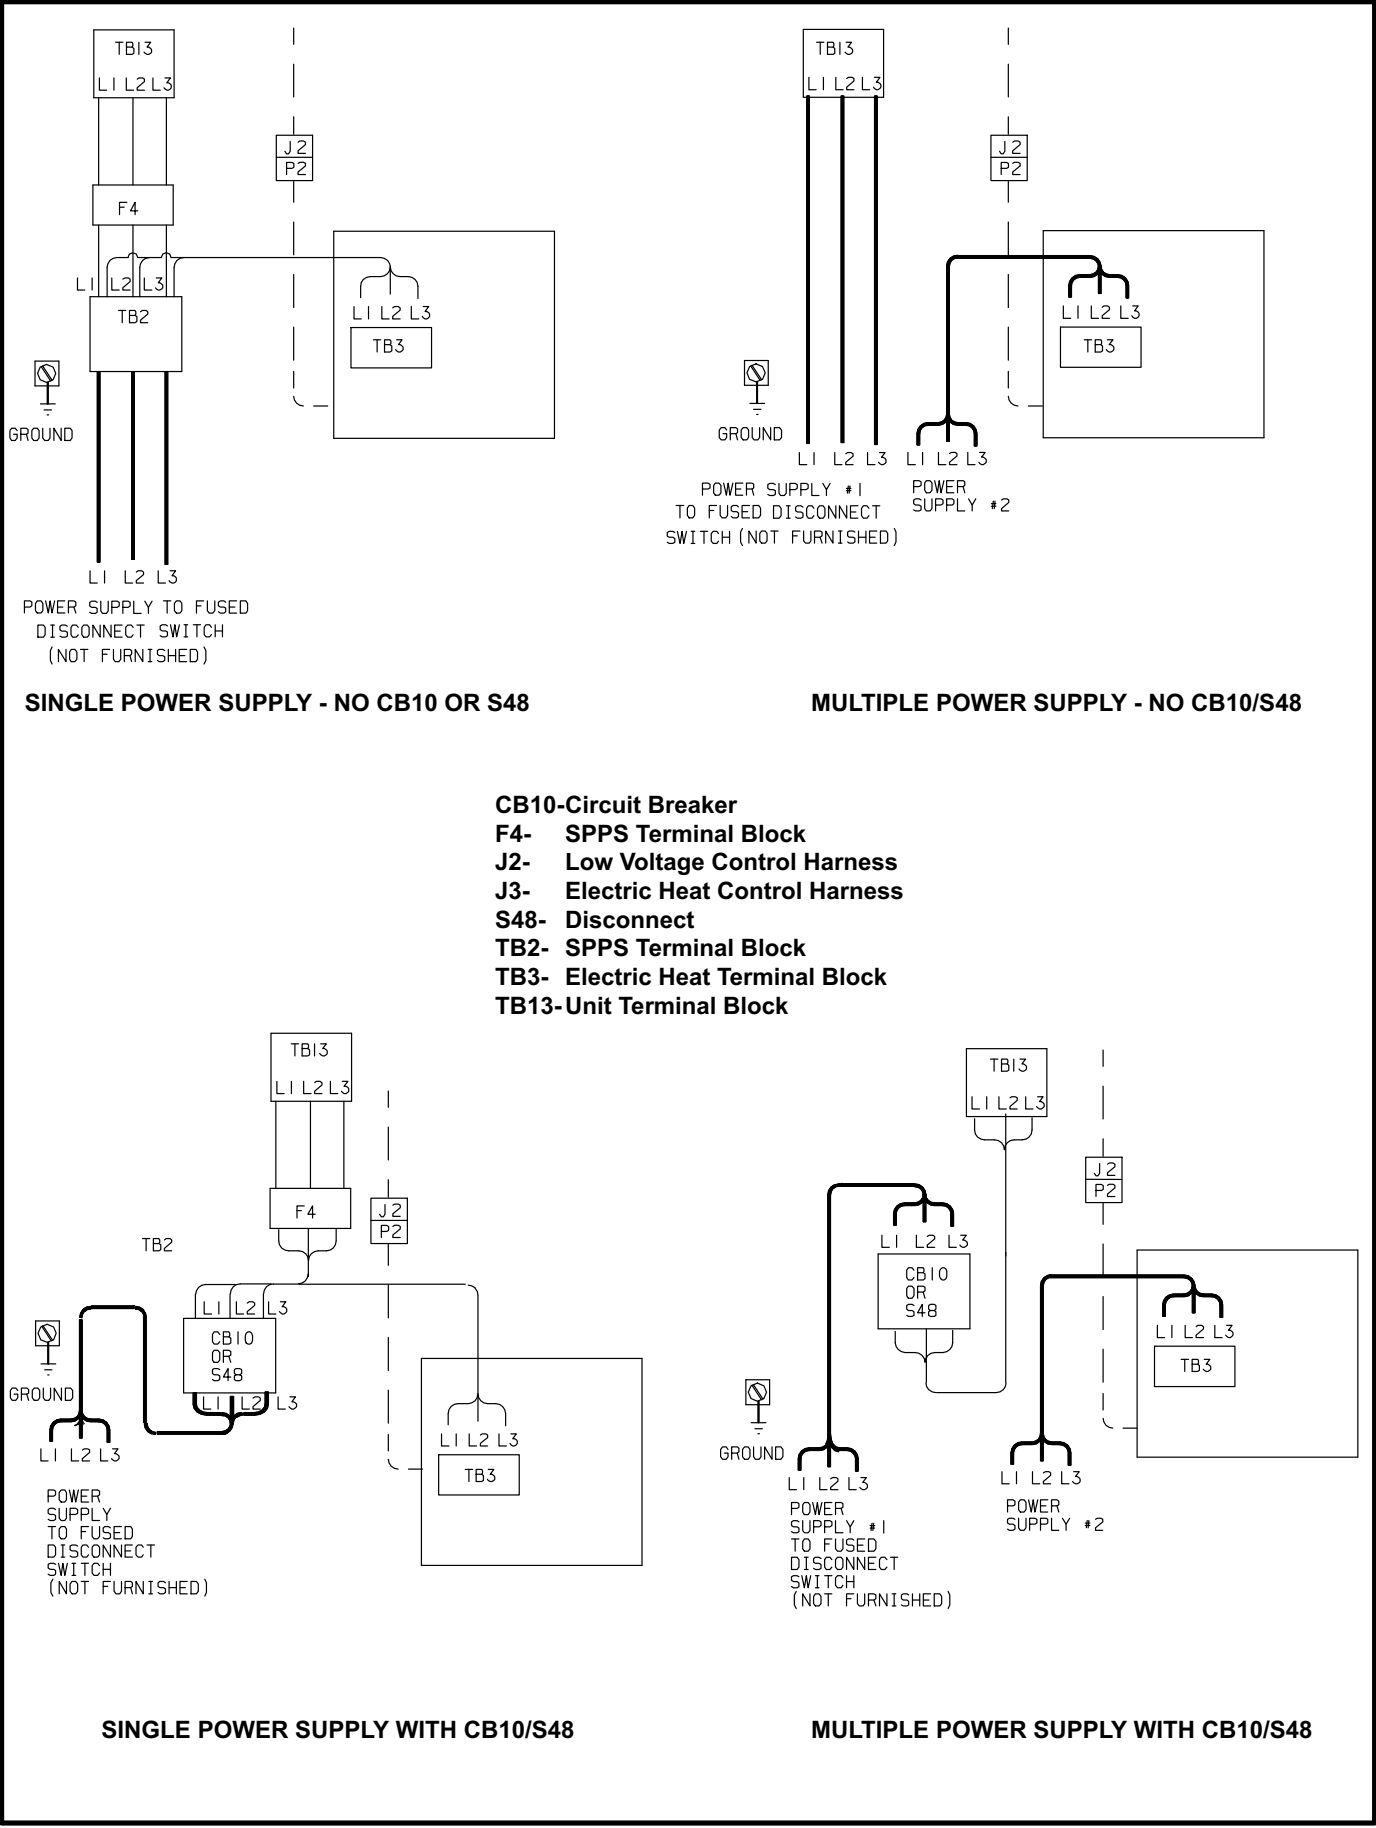

FIGURE 7
- 1- Review heater installed nameplate for MCA values and enlarge power entry knockouts as needed. Refer to figure 7 for field wiring.